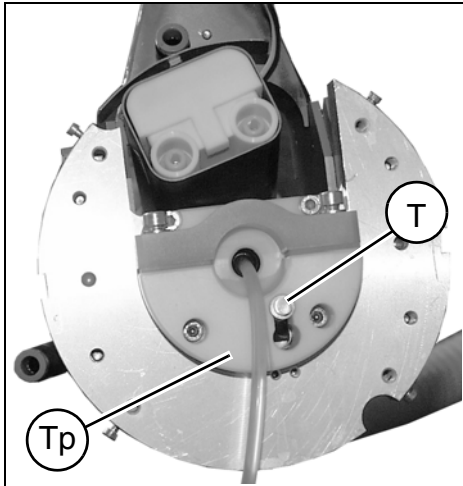
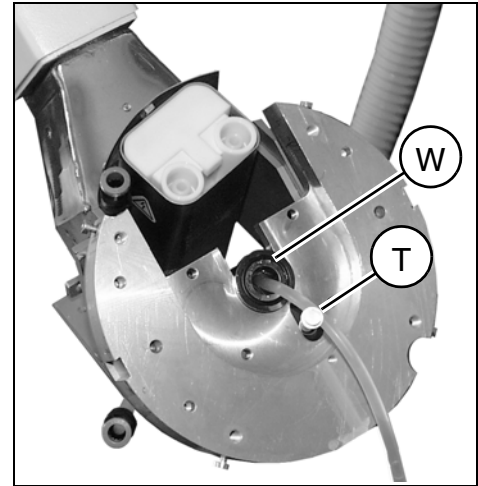

Fig. 18
Fig. 20
- Push the temperature sensor slightly forward (T/Fig. 18) in the shock wave head support and then push it back to the side.
- Remove the white teflon plate (Tp/Fig. 18) by removing the screws.
- Now pull the water supply (W/Fig. 20) in the shock wave head somewhat forward and then push it back to the side.
- Place the water supply (W/Fig. 20) in the shock wave head in the same manner it was done during deinstallation.
- Reattach the white teflon plate (Tp/Fig. 18).
- Place the temperature sensor (T/Fig. 18) with the spiral spring from the back in the shock wave head in the same manner it was done during deinstallation; ensure that the spiral force of the spring pushes the temperature sensor to the front (Fig. 18).
- Pull the temperature sensor (T/Fig. 18) in the shock wave head support somewhat forward and then push it back through to the side.
- Push the high-voltage connector (W/Fig. 20) slightly to the side for better access to the water supply (Fig. 20).
- Now pull the water supply (W/Fig. 20) with the center air suction hose slightly forward in the shock wave head support and then push it back through to the side.
- Install the water supply (W/ Fig. 20) in the shock wave head support, following the same procedure as for removal.
- Reinstall the white teflon plate (Tp/ Fig. 18).
- Install the temperature sensor (T/ Fig. 20) with the spiral spring in the shock wave head support following the same procedure as for removal in the reverse order; when doing this, make sure that the spring force of the spiral spring is pushing forward against the temperature sensor (Fig. 18).